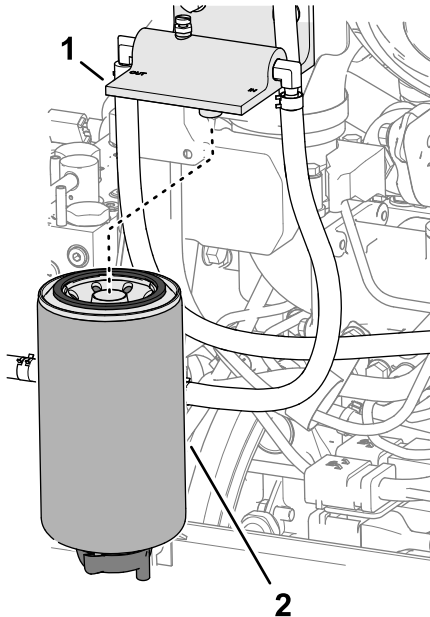

Figure 129
2. Clean the fuel-water separator filter and filter head (Figure 129).